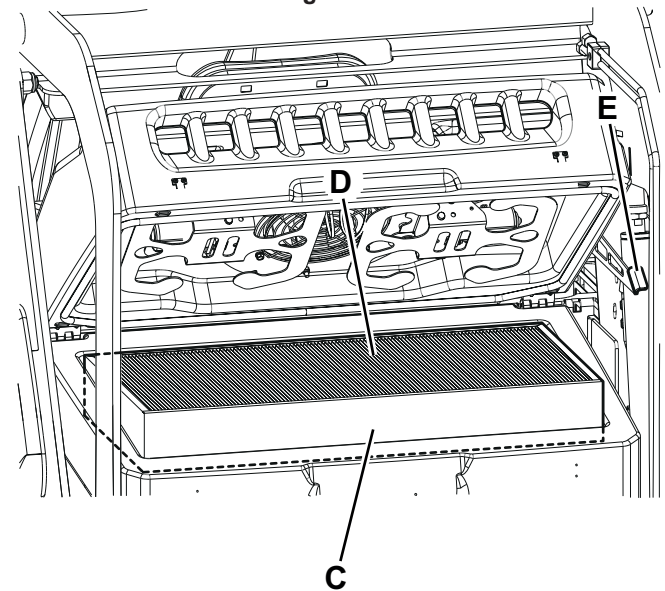

Figure 17
4. Lift the dust filter (C, Fig. 17) and remove it from the machine.
- Install the filter with the wire gauze upwards (D, Fig. 17).